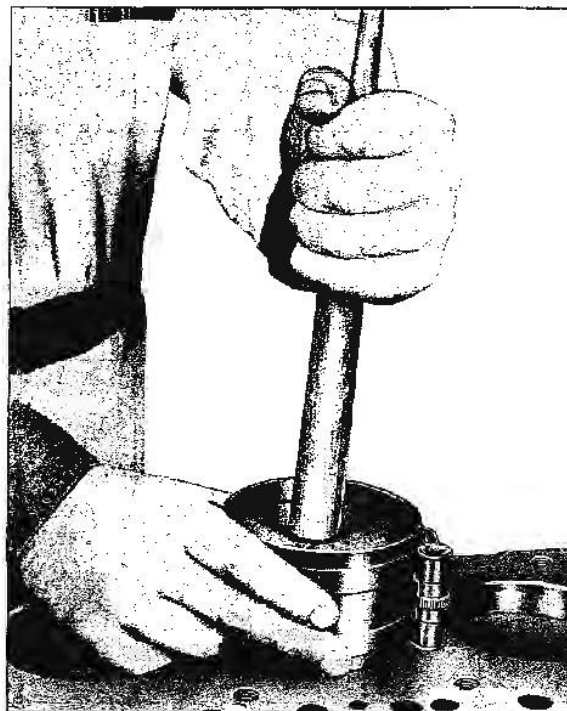

Fig. 6-69 Installing Piston in Cylinder
2. Using a suitable piston ring compressor insert rod and piston assembly into cylinder so that notch in top of piston is facing front of engine (Fig. 6-69).